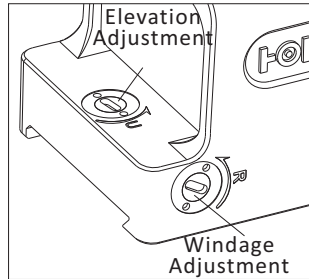

Fig 7
- 2) The Elevation adjustment is located on top of the tail section of the housing and the Windage adjustment is located on the right side of the housing. Adjustment can be performed by inserting the flat-tipped end of the included tool into the turret slot and rotating, See Fig 7.